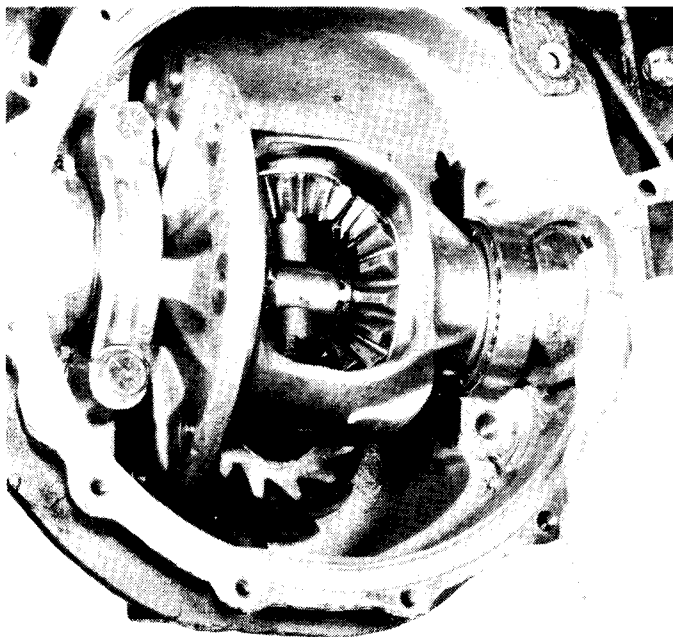

Fig. 10-45 Adjusting Sideplay
(1) Place bearing cup over each differential bearing and install differential case assembly in axle housing.
(2) Install shim on each side between bearing cup and housing. Use 0.080-inch shims as starting point (fig. 10-45).